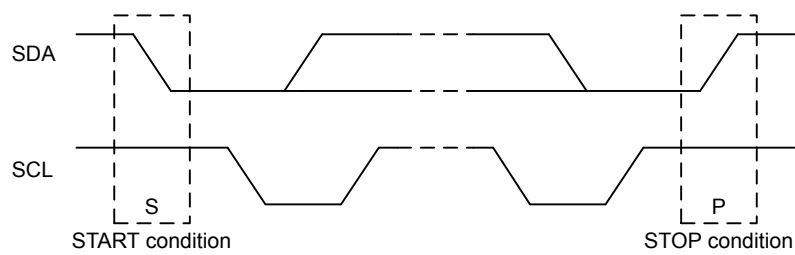

Figure 16.4. I2C START and STOP Conditions
START and STOP conditions are used to initiate and stop transactions on the I²C-bus. All transactions on the bus begin with a START condition (S) and end with a STOP condition (P). As shown in Figure 16.4 I2C START and STOP Conditions on page 493, a START condition is generated by pulling the SDA line low while SCL is high, and a STOP condition is generated by pulling the SDA line high while SCL is high.